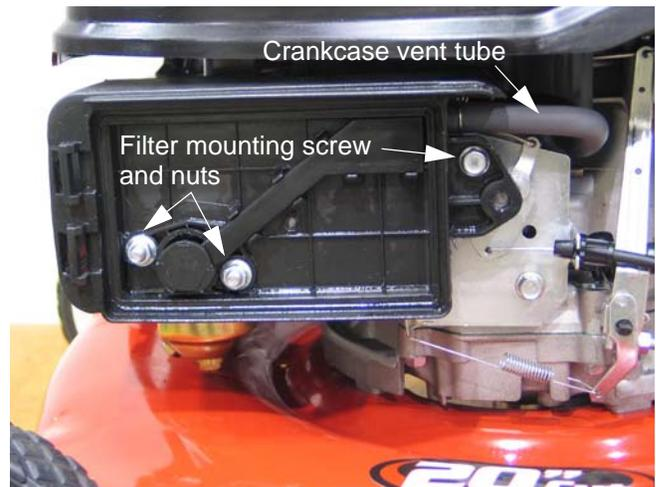

Figure 3.4
2. Remove the screw that holds the air filter housing to the control bracket using a 10mm wrench. See Figure 3.4.
3. Remove the two nuts that hold the air filter body to the carburetor mounting studs using a 10 mm wrench. See Figure 3.4.